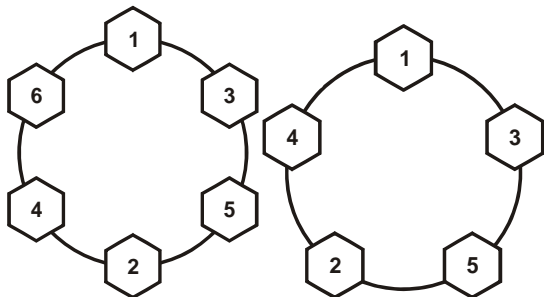

Figure 4-3. Wheel Nut Tightening Sequence
- ❑ Refer to Figure 4-3 for correct wheel nut tightening sequence.